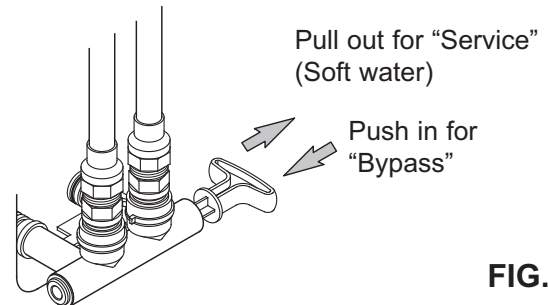
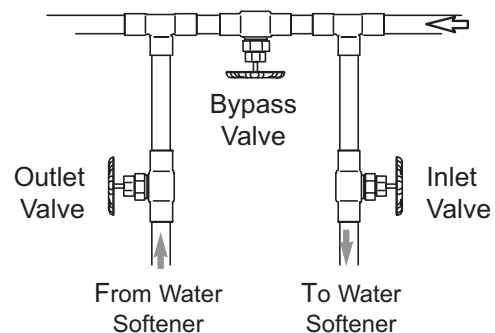

FIG. 7
FIG. 8
Always install either a single bypass valve (provided), as shown in Figure 7, or, if desired, parts for a 3 valve bypass system (not included) can be purchased and assembled, as shown in Figure 8. Bypass valves allow you to turn off water to the softener for maintenance if needed, but still have water in house pipes. Pipe fittings must be 1.9 cm minimum.
CAUTION: The house cold water pipe (metal only) is often used as a ground for the house electrical system. The 3-valve bypass type of installation, shown in Figure 8, will maintain ground continuity. If you use a plastic bypass valve at the unit, continuity is broken. To restore the ground, do the following:
2. Place the bypass valve (single or 3 valve) into the "bypass" position. See Figures 7 & 8 on Page 7.